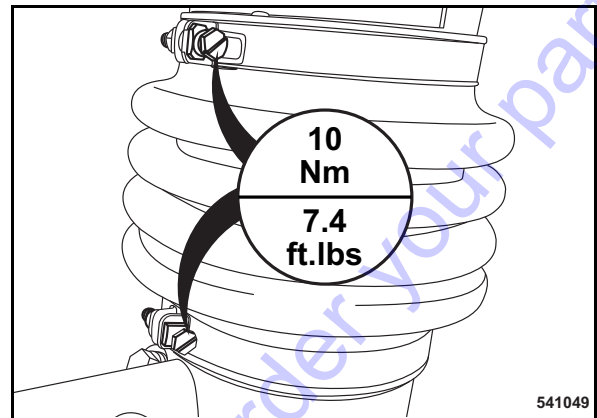

Fig. 43
- Check hose clamps for tight fit (Fig. 43).